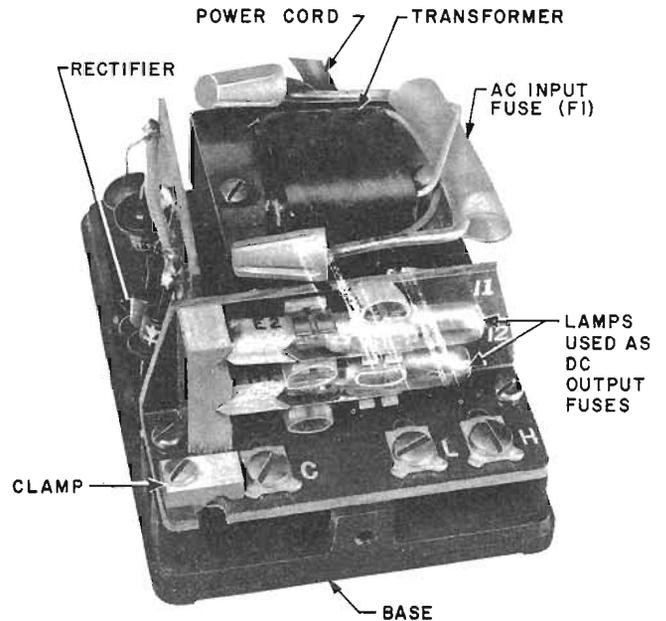

Fig. 2 - J87202A, List 1 Rectifier, Cover Removed
2.03 The rectifier (Fig. 2) provides:
**4.02** Secure station wire under clamp on rectifier (Fig. 2).